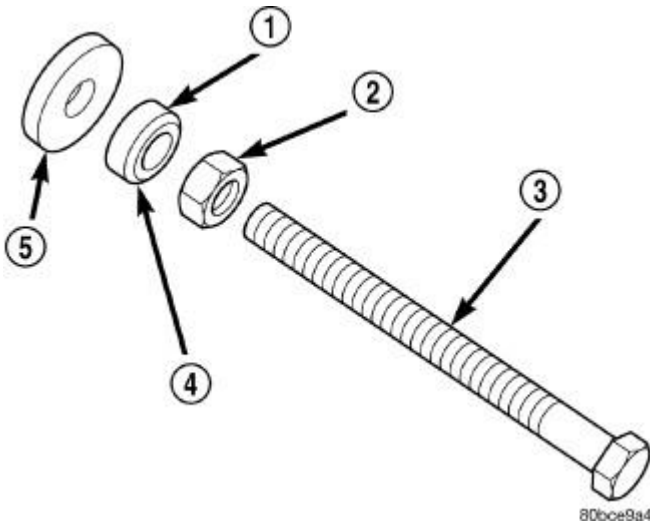

Fig. 86: Proper Assembly Method For Special Tool 8512A
2. Assemble the Damper Installer (special tool #8512A, Installer, Damper) as follows, The nut is threaded onto the shaft first. Then the roller bearing (1) is placed onto the threaded rod (3) (The hardened bearing surface of the bearing **MUST** face the nut). Then the hardened washer slides onto the threaded rod. Refer to **Fig. 86**. Once assembled coat the threaded rod's threads with Mopar® Nickel Anti-Seize or (Loctite No. 771).